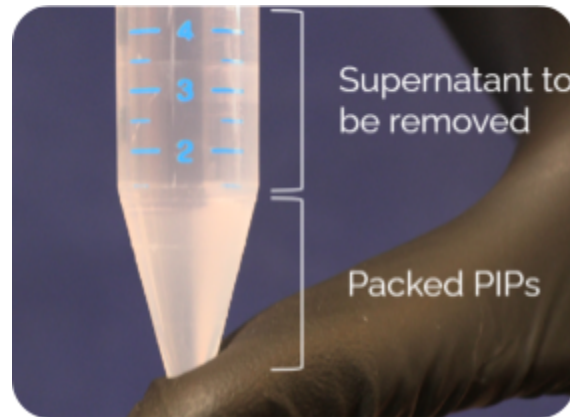

Figure 9. Packed PIPs after centrifuging.
- Gently mix each tube by tapping the bottom to break up the pellet and invert 10 times. Centrifuge the tubes for 2 minutes at 750 x g (use ~70-80% of the maximum braking speed) on a centrifuge with a swinging bucket rotor to pack the PIPs (Figure 9).